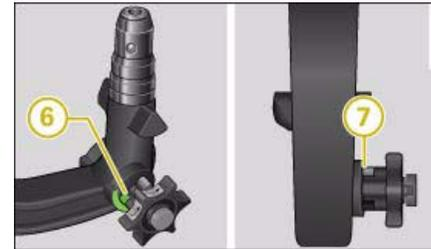

Fig. 241 Removable towing bracket: Safety check
- Check that the green marking **(6)** ⇒ *fig. 241* on the knob is inside the green zone on the ball joint.